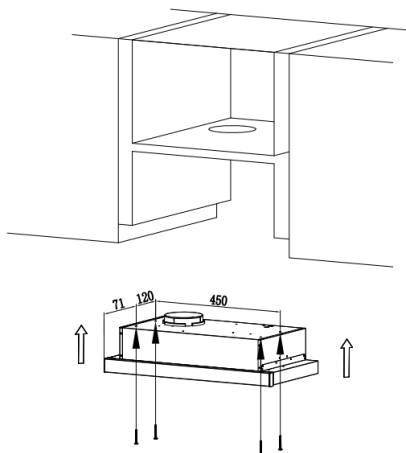

**Fig. 13**
- 7) Connect the power and pull out the slide. Then turn the LED lights on/off to test whether the functions are working properly. (see Fig. 13)